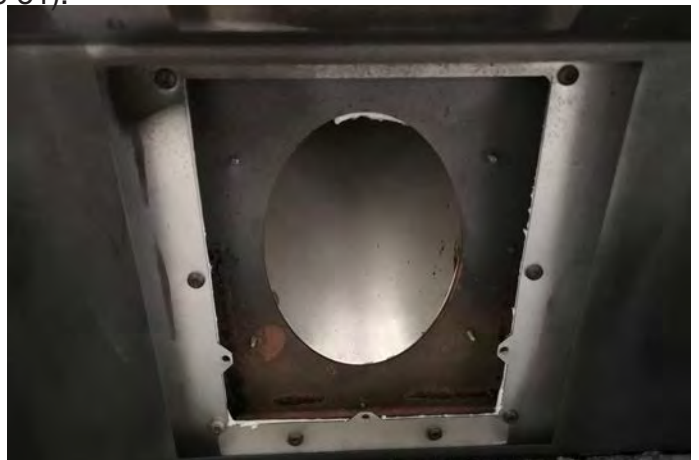

Figure 61: Flue opening.
- The angled back shield of the firebox is a removable part. Remove the 4 screws across the top of the panel. Pull the panel gently towards you to release it from the retainers on the back of the firebox. The flue opening is now be visible (Figure 61).